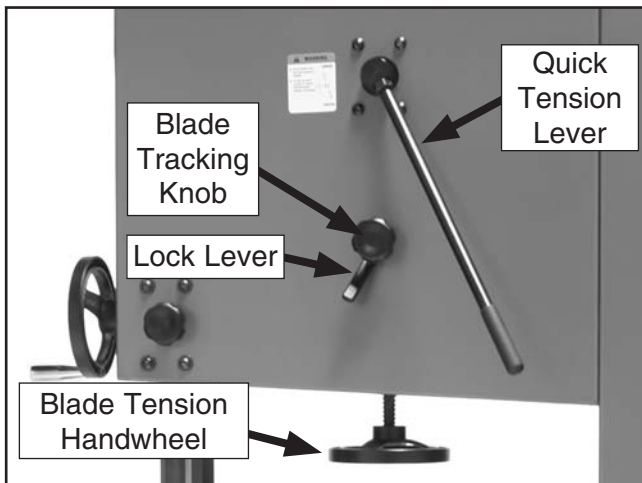

Figure 28. Blade tensioning controls.
3. Move the quick tension lever to the tightened position and turn the blade tension handwheel until the blade tension matches the mark on the blade tension scale for the appropriate blade thickness (see **Figure 28**).